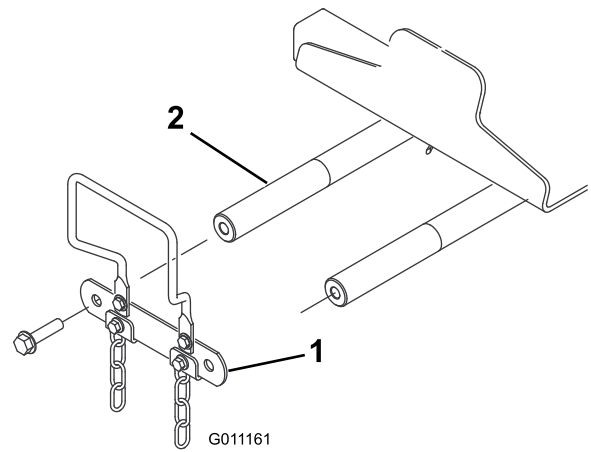

**Figure 12**
1. Lower the roll bar onto the traction unit mounting brackets, aligning the mounting holes. Ensure that the vent tube on the roll bar is on the left side of the machine (Figure 12).
- Secure each side of the roll bar to the mounting brackets with 2 flange head bolts and locknuts (Figure 12). Torque the fasteners to 81 N·m (60 ft-lb).